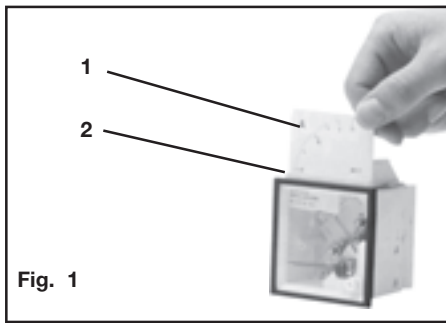

Fig. 1
With measuring instruments for c.t. connection n/1A (Fig. 1) the interchangeable scale, item 1, can be exchanged via a flap, item 2, on the upper part of the measuring instrument.